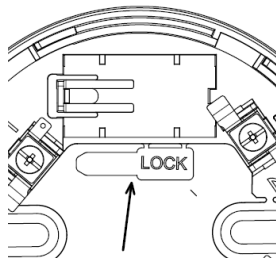

Fig.2
- Pre remove the key from the base ( Figure 2).